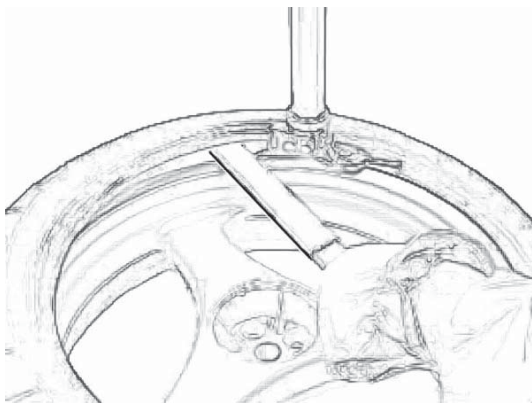

Fig. 4.3-1b
- E.** As the turntable is turning use the tire tool in your left hand to raise and guide the tire bead onto the bead head (Fig. 4.3-1b).